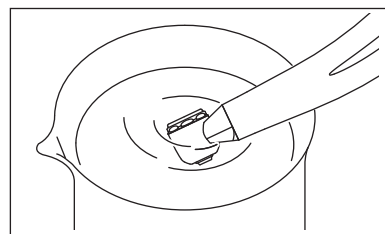

Fig. 3
- Rotate the handpiece and immerse half of the handpiece head. (Fig. 3)